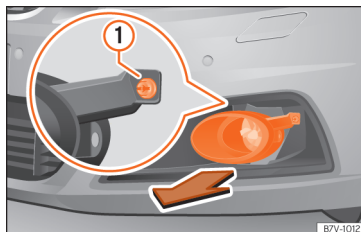

Fig. 66 On the right side of the front bumper: disassembling the headlights.
- Pull the cover forwards, in the direction of the arrow  **Fig. 66**.
- Unscrew the attachment screw  **Fig. 66** ① using the screwdriver from the vehicle tool kit  **page 41.**
- Tighten the attachment screw » **Fig. 66** ① using the screwdriver.
- Replace the cover on the bumper » **Fig. 66**.